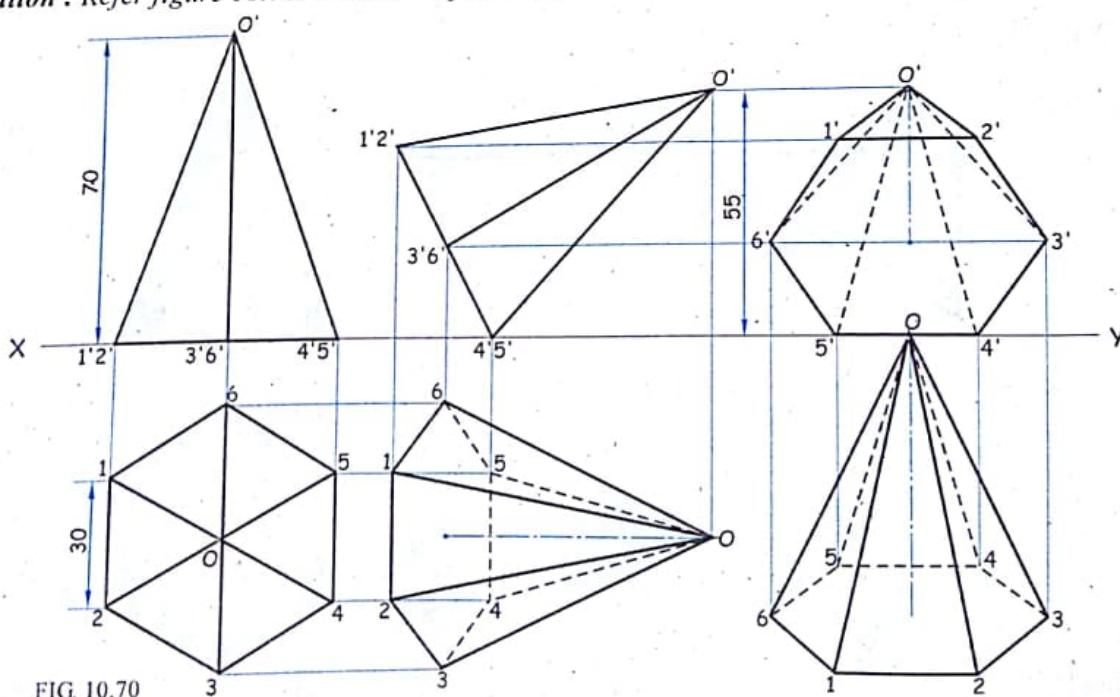

FIG. 10.70
**Solution :** Refer figure 10.70. It is self explanatory.